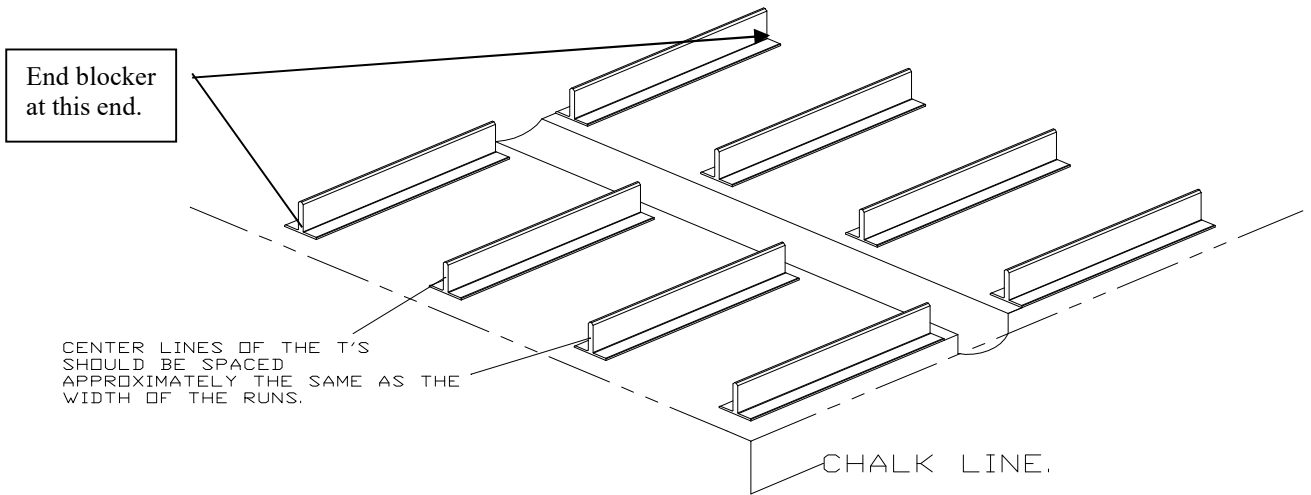

Figure 6
for your application. Once selected, identify the exact location of the outside corner of that run. Mark both sides of the corner on the floor with a chalk line (or other preferred method) as shown in Figure 6. **Important:** Make sure that the two lines are perpendicular and in the exact final location desired for the corner of your kennel.
4. Layout the "Sanislope T" sections approximately where they will lie on the final floor plan as shown in Figure 6. **Note: be sure that the end blocker that was installed in step 2 is at the outside or gate end of the run.**